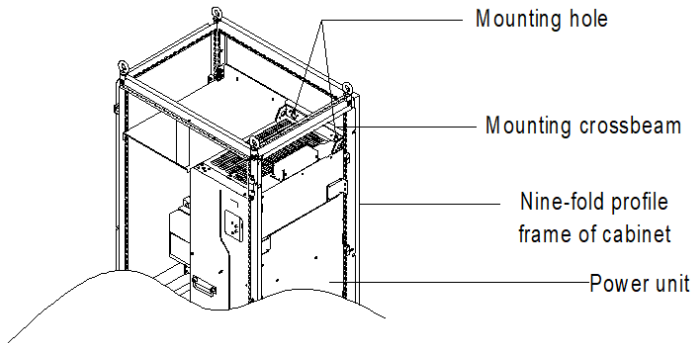

Figure 4-12 Three-dimension view of mounting a GD270 280–500kW VFD in a cabinet
- (2) When mounting a GD270 280–500kW VFD into a nine-fold profile cabinet with the depth of 600mm, you must bend the mounting crossbeam inwards (shown in Figure 4-12) to make use of the space of column, which is not necessary for the mounting into a standard cabinet with the depth of 800mm or greater.